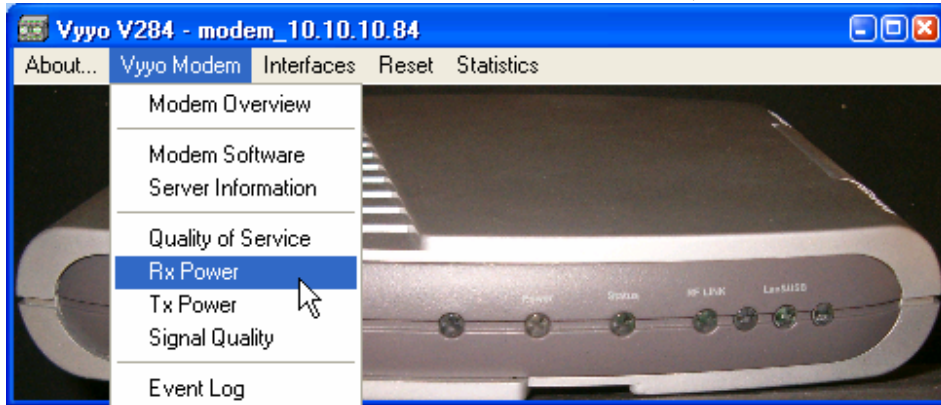

Figure 3-4: Arcadian Networks Modem Menu
2. Open the window for this MMU on the NMS server: double click on the MMU icon or the name of the MMU in the left window pane to bring up the MMU Display shown in Figure 3-4.